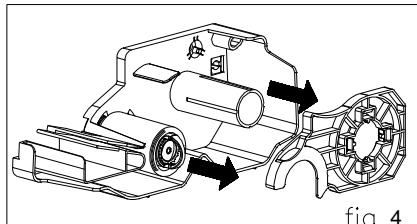

fig. 4
- 4) Remove Pick-Up Spool assembly and paper guide from the cartridge as fig. 4.